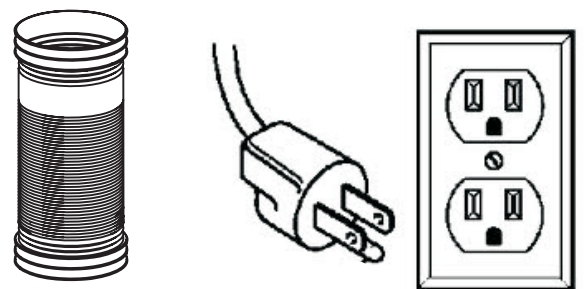

fig. 4
Step 5: Make your electrical and ducting connections. Use 8" rigid duct wherever possible. Try and minimize the use of elbows. More elbows and longer runs create higher static pressure. The hood comes with a grounded three prong plug that can either be direct wired or plugged into a 20 amp. circuit. fig. 4